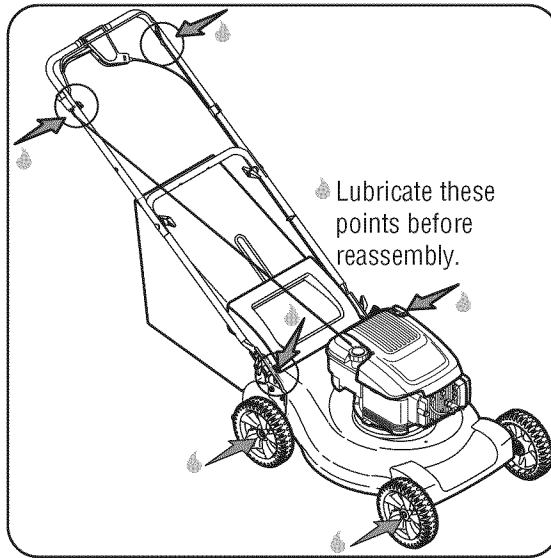

Figure 10
1. Lubricate pivot points on the blade control at least once a season with light oil. The blade control must operate freely in both directions. See Figure 10.
2. Lubricate the wheels at least once a season with light oil (or motor oil). If wheels are removed for any reason, lubricate surface of the axle and inner surface of the wheel with light oil. See Figure 10.
3. Lubricate the torsion spring and pivot point on the rear discharge door and side mulch plug periodically with light oil to prevent rust. See Figure 10.